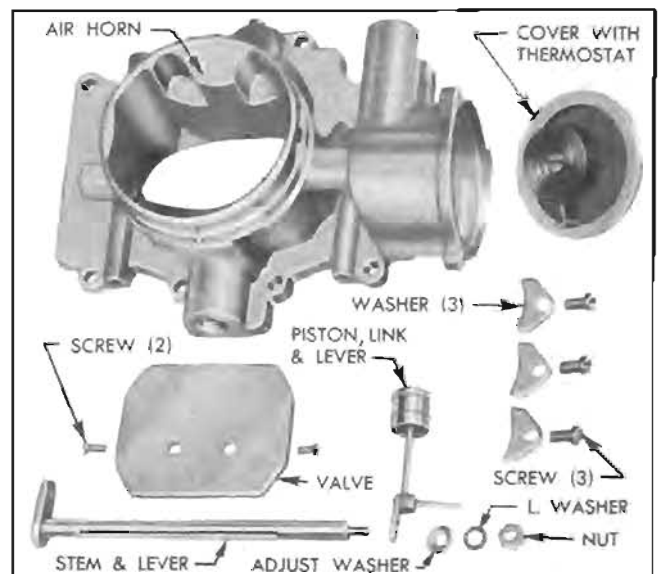

Figure 3-61—Stromberg Choke Control Parts
7. Remove thermostat cover. Use Wrench T-25047 to remove nut from choke stem, then remove lockwashers and serrated washer. See figure 3-61.